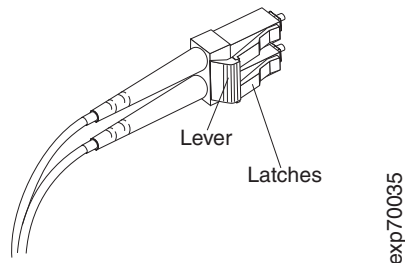

Figure 33. LC-LC fibre channel cable lever and latches
1. On the end of the cable that connects into the LC connector end of the LC-SC cable adapter, press down and hold the lever to release the latches. Figure 33 shows the location of the lever and latches.